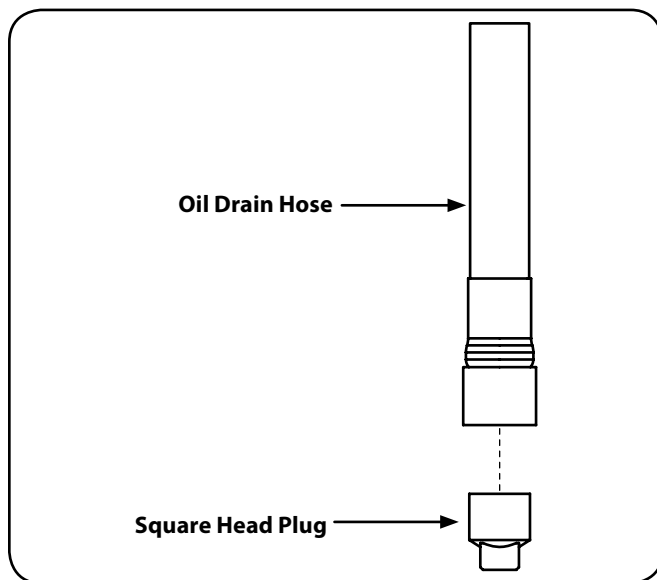

Figure 6-5
4. While holding the free end of the oil drain hose over the oil collection container, unscrew the square head hose plug from the end of the hose. See Figure 6-5. Drain the engine oil into the collection container.